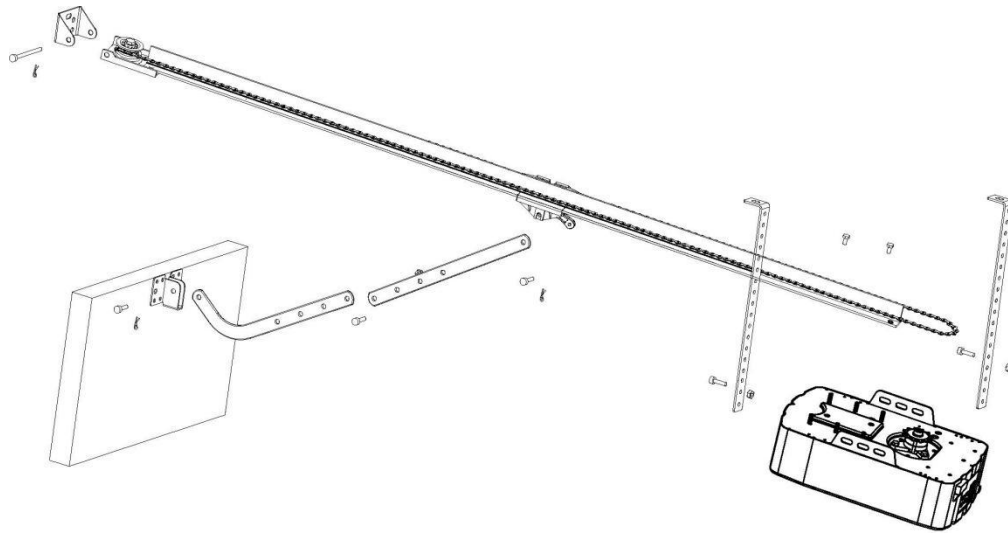
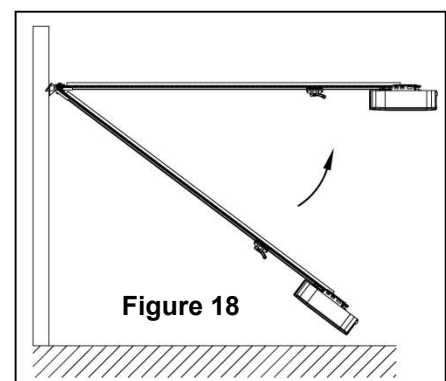

Figure 17
Figure 18
STEP1 (Fig. 17)
STEP2 (Fig. 17)
STEP3 (Fig. 17, Fig.18)
STEP4 (Fig. 17, Fig.19)